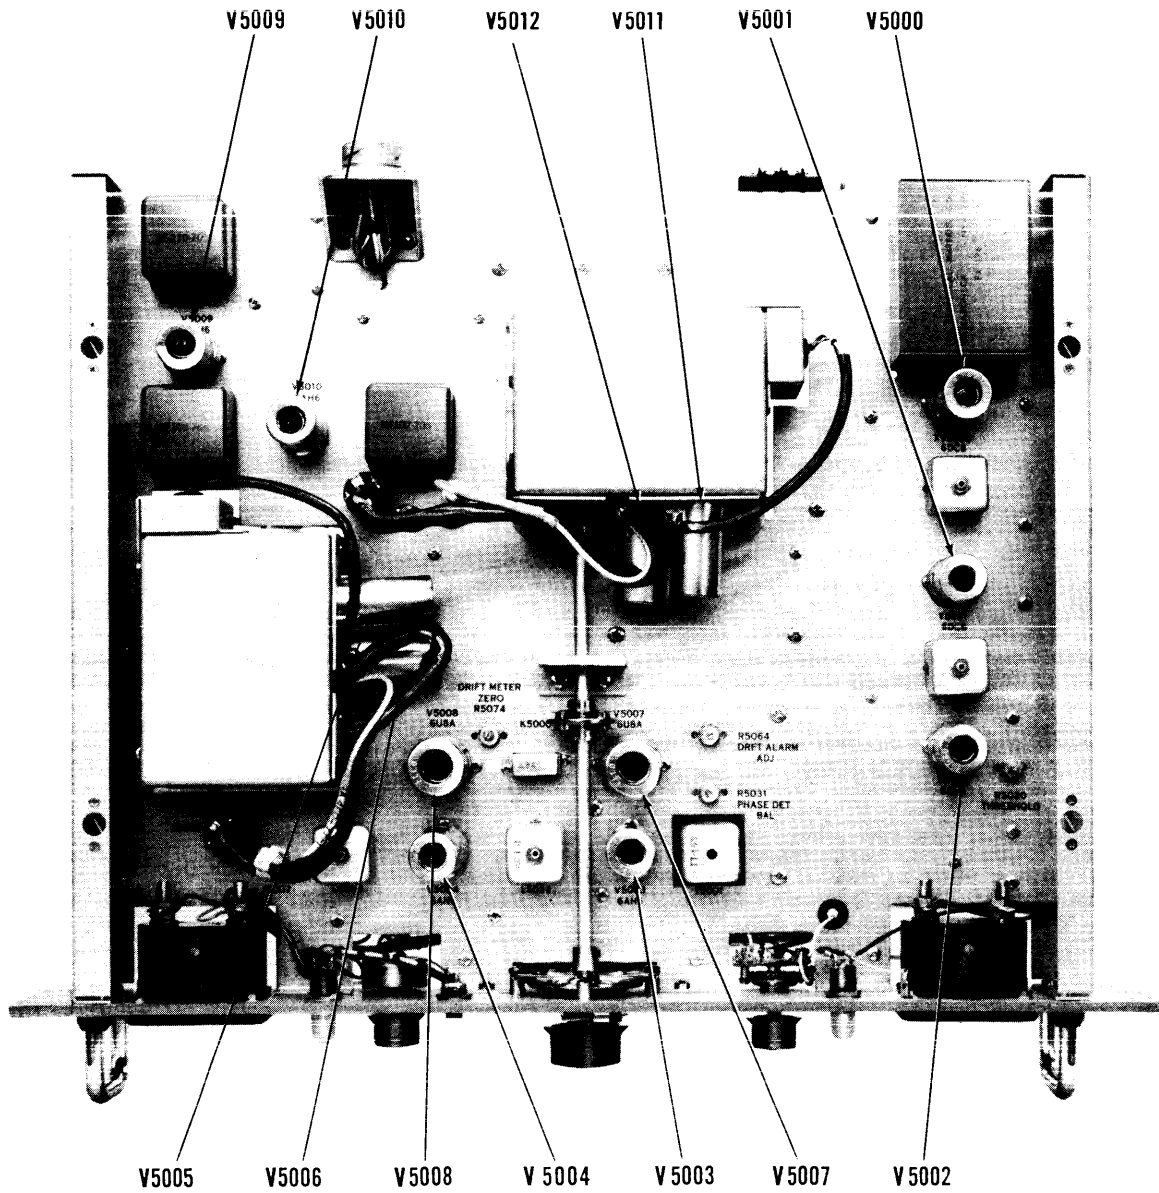

Figure 5-1. AFC-2A,3, Tube Locations
c. **TUBE LOCATION DATA.** Figure 5-1 locates the tubes of the AFC unit by reference designations.